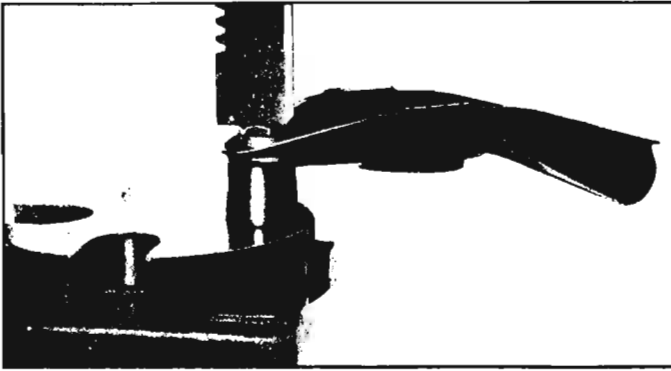

Fig. 3-15—Installing Spherical Joint
1. Place arm on press bed with Tool J-7081 positioned as shown in Figure 3-15.